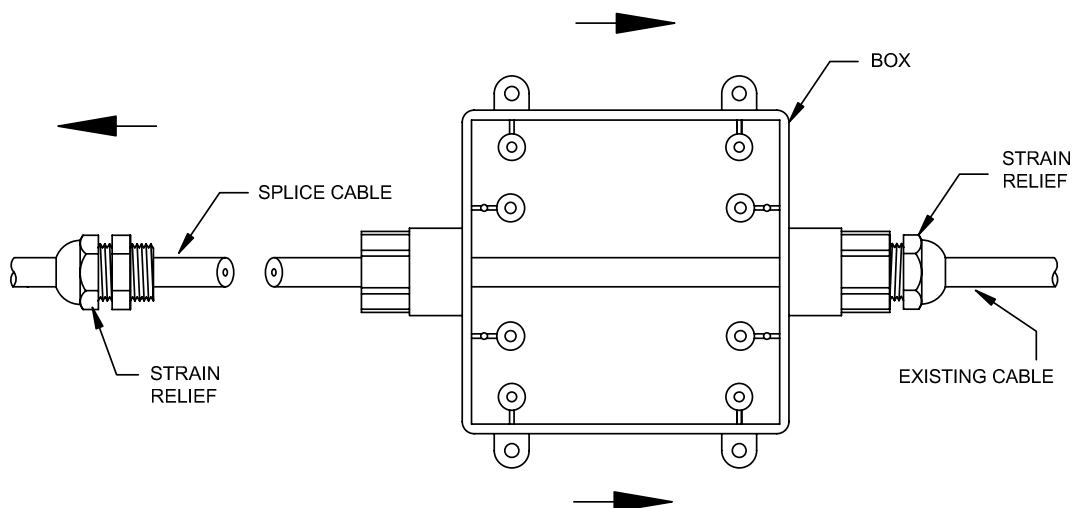

Figure 6.26 – Splice Kit Enclosure and Strain Relief
- **Step 2:** Follow Figure 6.26 and slide the enclosure with the strain relief over the existing cable. Slide the other strain relief over the end of the splice cable.